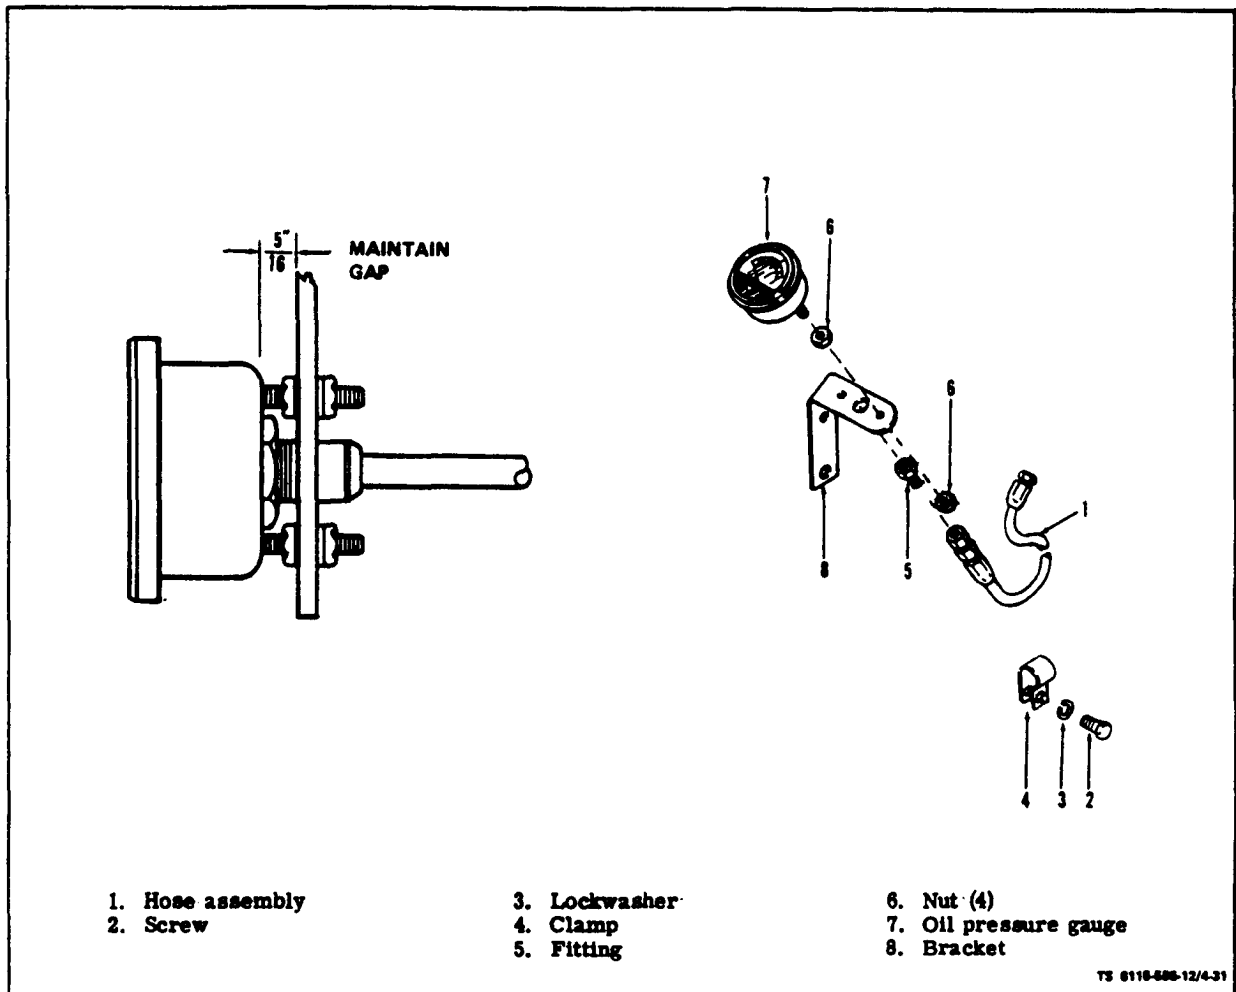

Figure 4-31. Replacing Oil Pressure Gauge
b. Remove (see figure 4-31). Disconnect and drain oil line (1) to Oil pressure gauge (7). Remove screw (2), lockwasher (3), clamp (4) and remove oil pres-
c. Replace. Install oil pressure gauge (7) on mounting bracket (8) with nuts (6) two on each side of bracket (8). Maintain gap between gauge and bracket as indicated on figure 4-31. Position oil pressure gauge and bracket on engine and install clamp (4), lockwasher (3) and screw (2). Connect and tighten oil line (1).